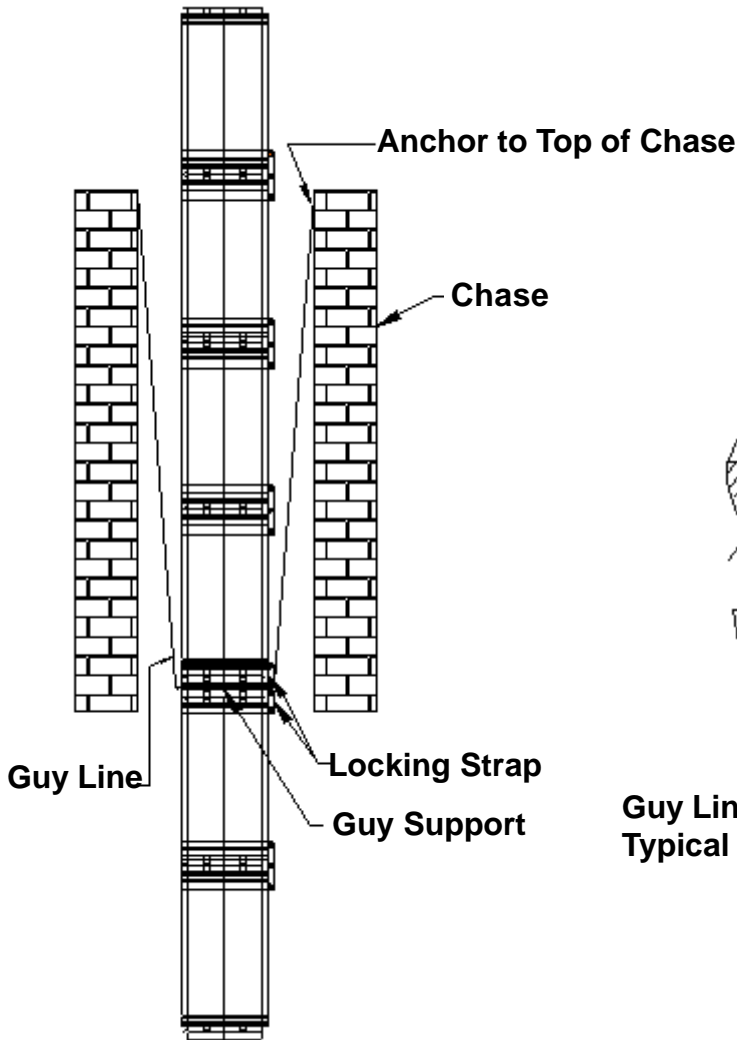

Figure 4
3. Apply a 1/4" bead of RTV sealant to the inside of the female end of the boiler adapter, 3/4" from the edge, *figure 4*. Make a continuous, straight-line bead, not a zig-zag pattern when applying the sealant.
APPLICATION 1. To Lower A Stack (Figure 4).